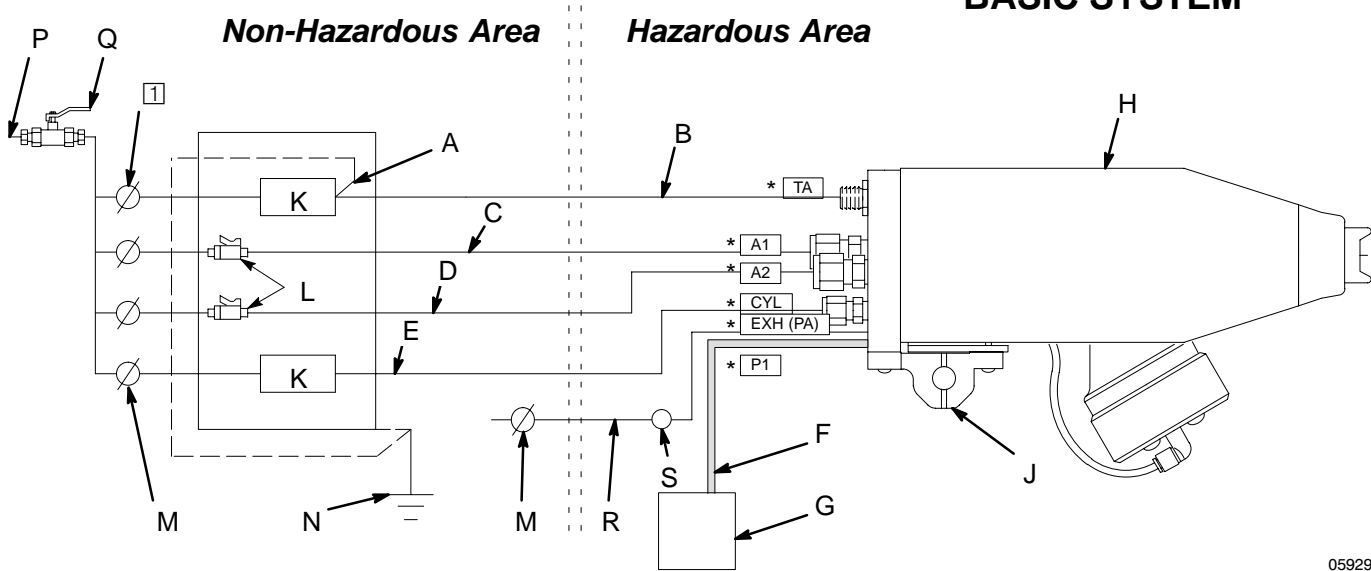
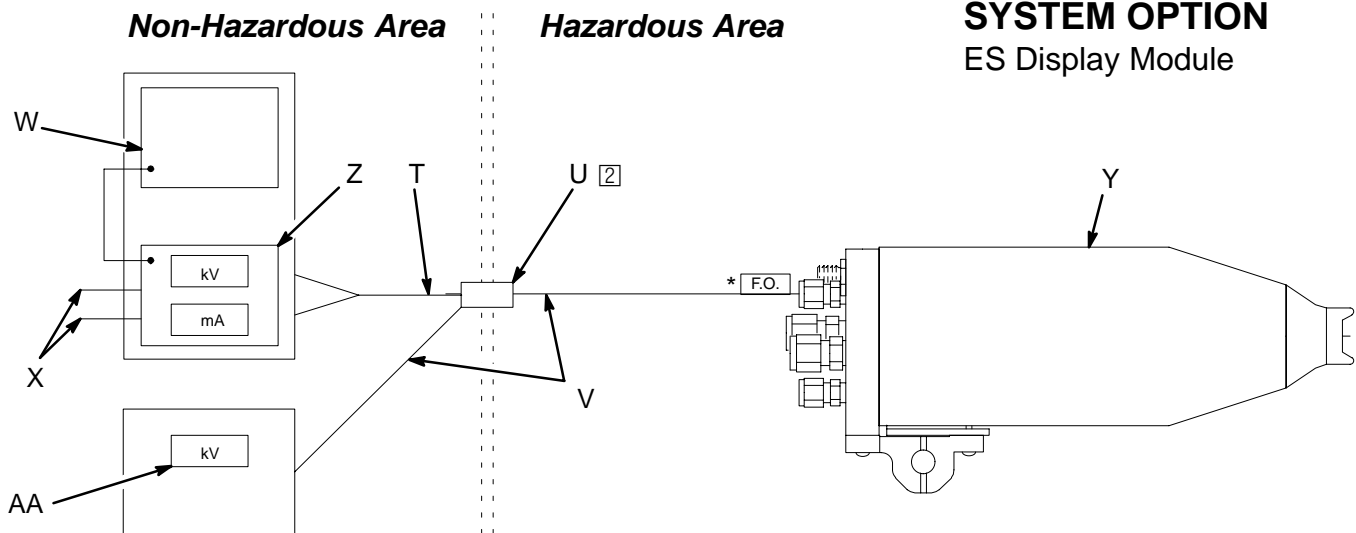

Fig. 2
Fig. 3
- The gun functions are activated from a separate controller that sends the appropriate signal to the actuating solenoids. Refer to Fig. 2, page 10.
- An optional fiber optic readout system can be installed to monitor the gun's spraying voltage. A fiber optic cable connected to the gun manifold carries the signal from the gun to a remote ES (electrostatic) display module. An ES Display Module, part no. 224117, is available and will display the gun's spraying voltage and current. A battery operated ES Display Module, part no. 189762, is also available; it displays the gun's spraying voltage only. Refer to Fig. 3, page 10.
Fig. 2, page 10, shows a typical Model PRO 5500wb waterborne system. Fig. 3 shows the optional ES Display Modules. The particular type and size system for your operation must be custom designed for your needs. For assistance in designing a system, contact your Graco representative.
2. Install a bleed-type air shutoff valve (Q) on the main air supply line to shut off all the air to the gun.
3. Install a bleed-type air regulator (M) on each of the gun air supply lines to control the air pressure to the gun. See Fig. 2, page 10.
4. Install a bleed-type air shutoff valve (L) on the fan (C) and atomization (D) air lines to shut off the fan and atomization air to the gun.
See Fig. 2, page 10, for a schematic of air line connections. Connect the air lines to the gun manifold as instructed at right.
Connect the red-colored Graco Electrically Conductive Air Hose (B) to the gun turbine air inlet and connect the hose ground wire (A) to a true earth ground (N). Refer to Fig. 2, page 10. Check the electrical grounding of the gun as instructed on page 18. See page 57 to order the air hose.
An optional fiber optic fitting (124) is shipped unassembled with the gun. If an ES (kV) display module is used, install the fitting in the manifold. See Fig. 3, page 10, for a schematic of the fiber optic connections.